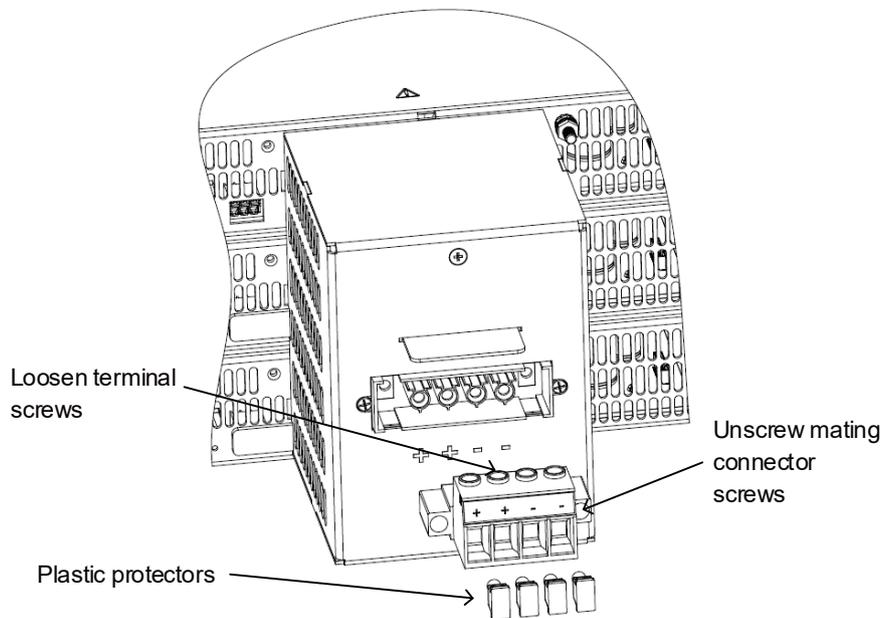

Figure 4-62: Output Connector Disassembly
2. Unscrew the mating connector from the power supply rear panel and loosen the terminal screws, remove the plastic protectors. Refer to Figure 4-62 (15kW is shown, it applies to 10kW as well).